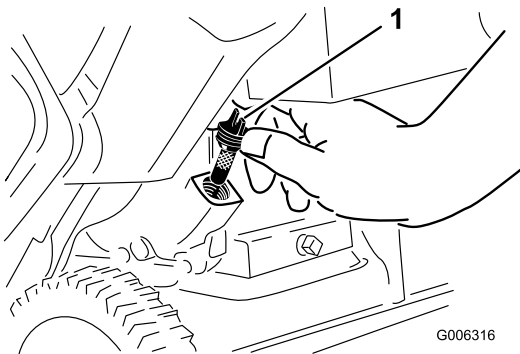

Figure 25
6. Clean around the oil-fill cap (Figure 25).
7. Unscrew the oil-fill cap and remove it (Figure 25).